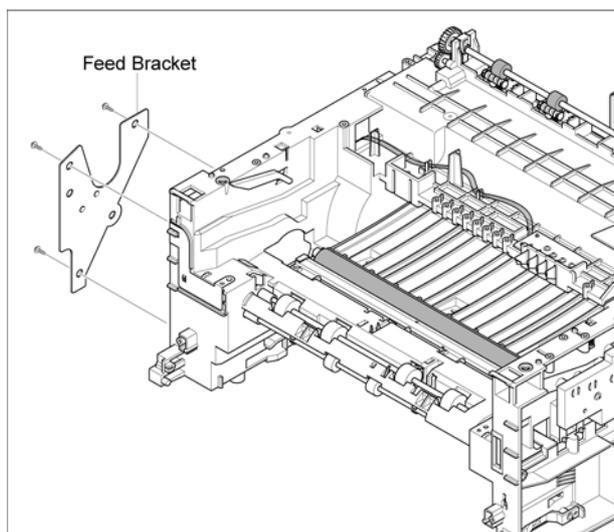

Figure 3
4. Remove 3 screws then the Feed Bracket, Figure 3.